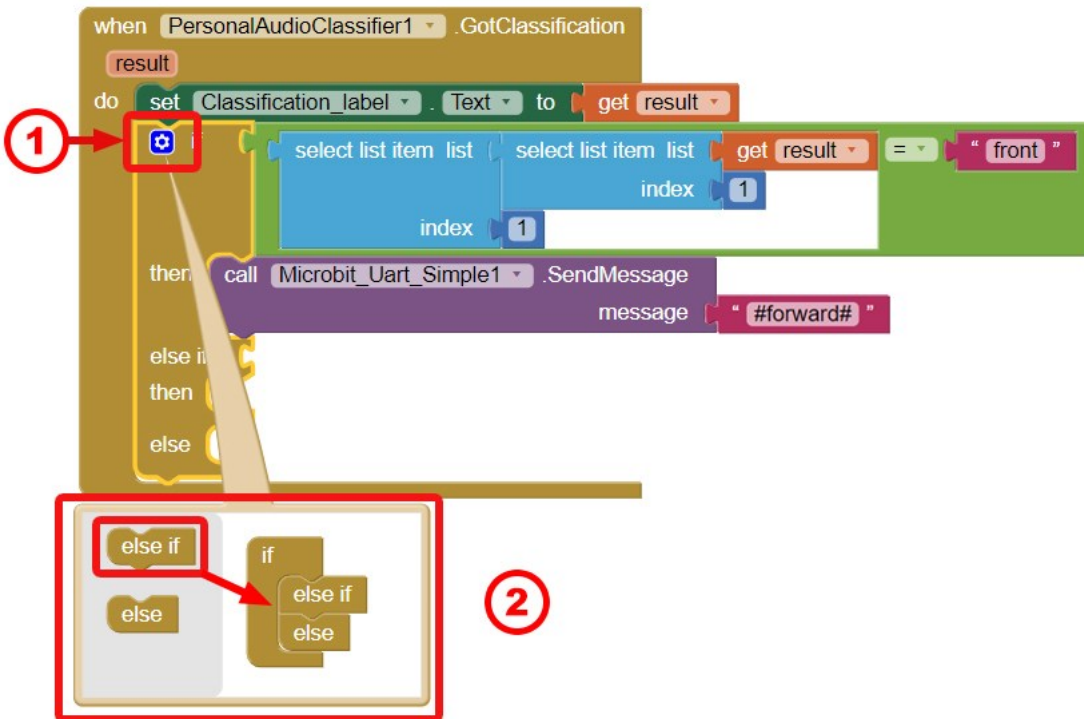

Figure 40: Adding more else if conditions
**Note:** if you want to add more “else if” conditions click on the blue gear (1) next to “if” statement, and from the floating menu (2), drag and drop as many new “else if” conditions as you need (Figure 40).